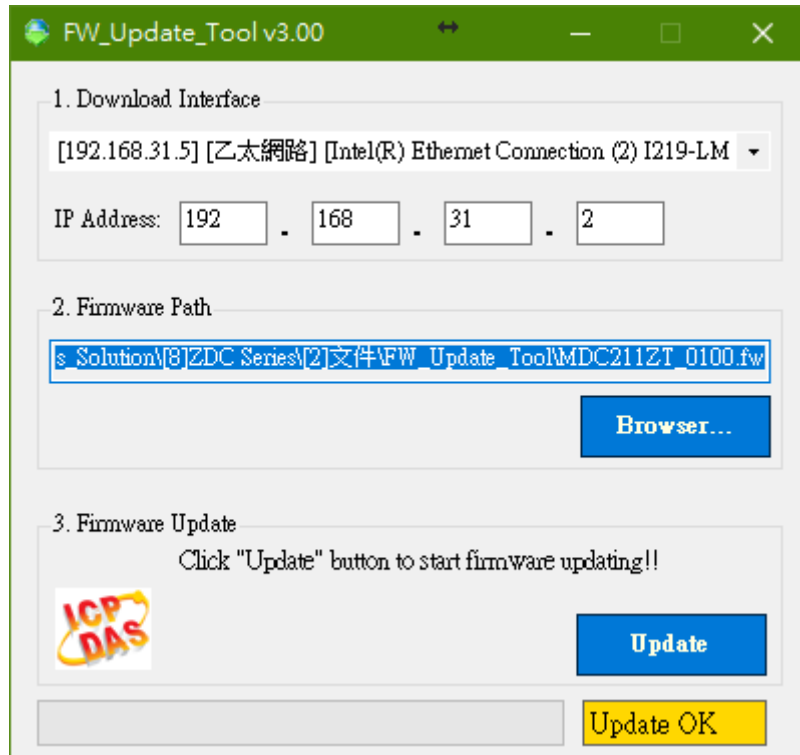

Figure 5.3 FW_Update_Tool firmware update steps
(1) Please go to the file center of the MDC-211-ZT product website to download the latest version of firmware and software (FW_Update_Tool) to your computer.
(2) Short the FW with GND of MDC-211-ZT and turn on the power. When the six LEDs of MDC-211-ZT turn blinking alternately, the MDC-211-ZT is successfully entered the firmware updating mode.
(3) Execute "FW_Update_Tool.exe" with the administrator privileges (👤) and follow the steps as Figure 5.3: